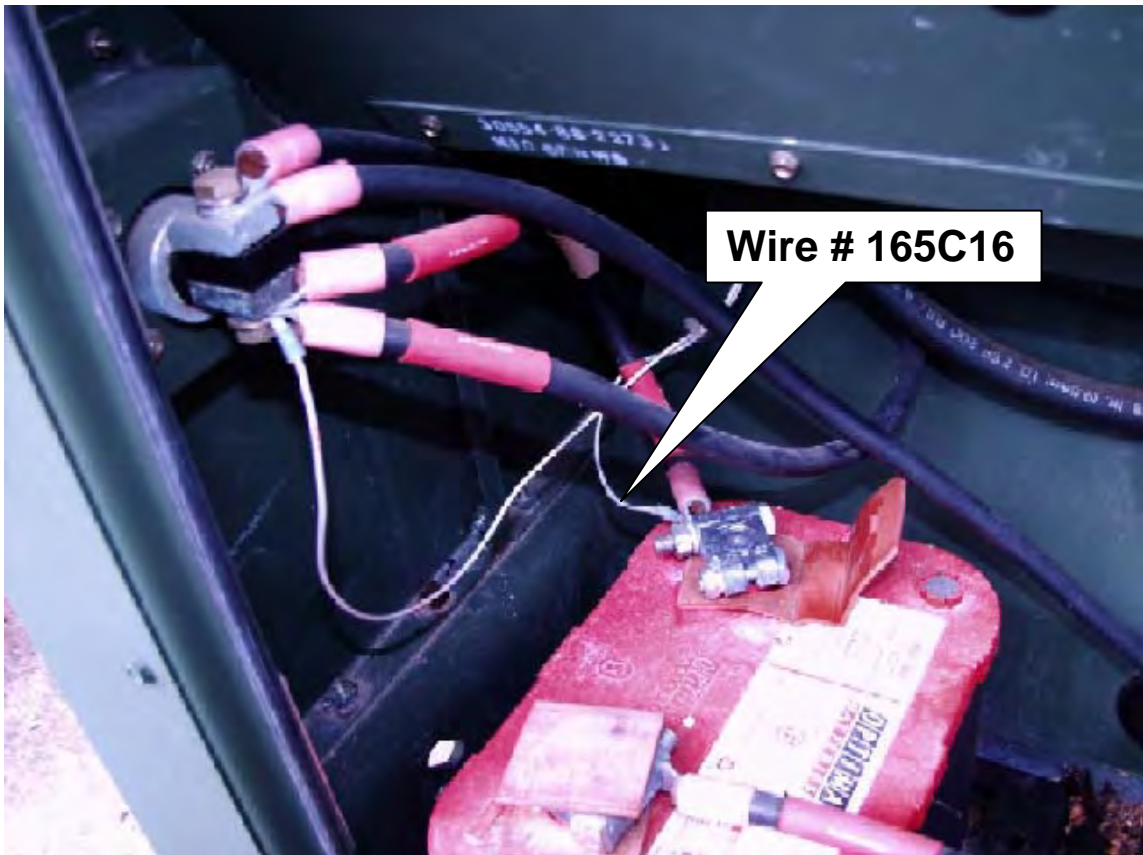

Figure 2. Battery Compartment
- 2 Remove wire # 165C16 from the positive terminal of batteries as shown in figure 2.